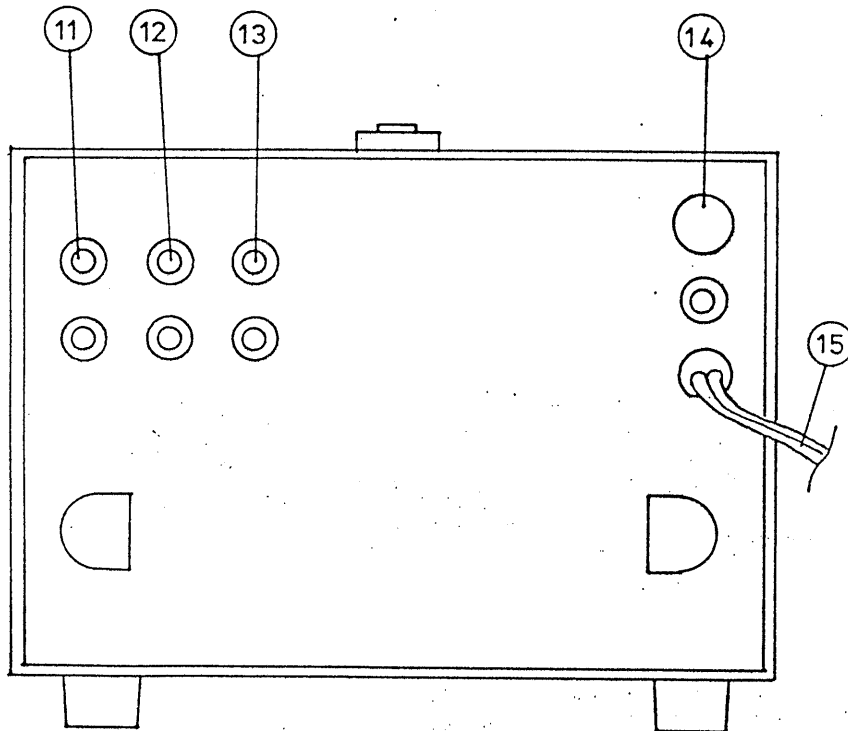

Fig. 3-2 Layout of components on rear panel
3.2 Explanation of Rear Panel (Refer to Fig. 3-2.)
- (11) TO SCOPE: This terminal provides a signal for observation of wow/flutter waveform (period) with an oscilloscope. GND terminal is connected to chassis. Output impedance is approximately 10 k Ω .